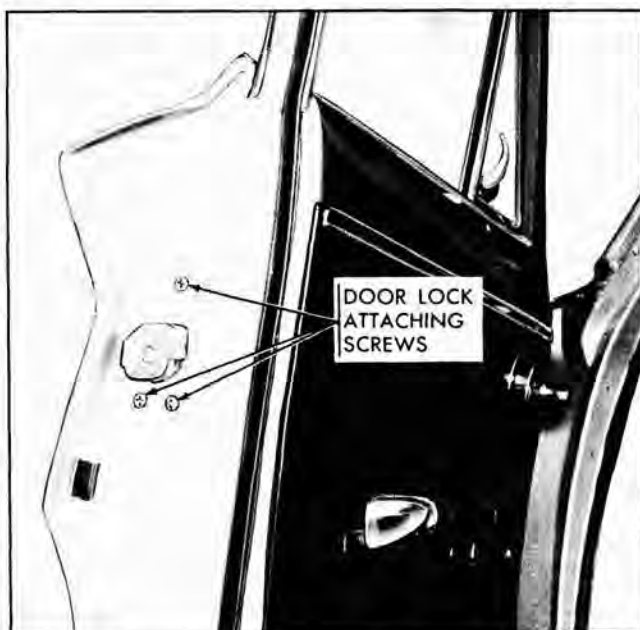

Fig. 13-22 Door Lock Attachment
4. Remove door lock attaching screws and remove lock assembly through inner panel access hole (Fig. 13-22).